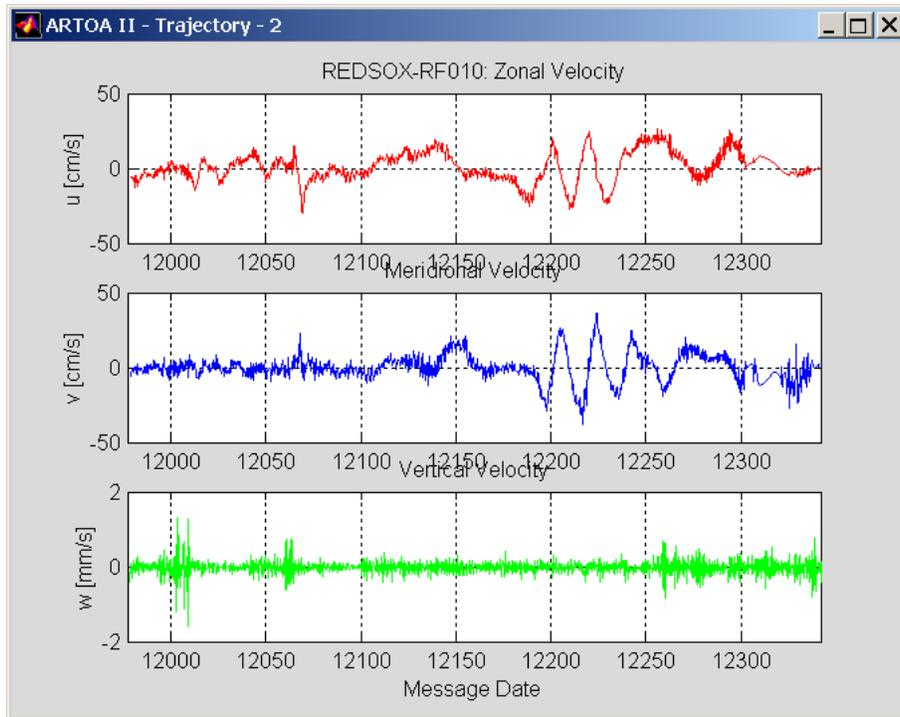

Figure 10: Plot of velocities.
- Velocities - creates a figure with time-series of zonal (cm/sec), meridional (cm/sec), and vertical (mm/sec) velocities. See Figure 10.